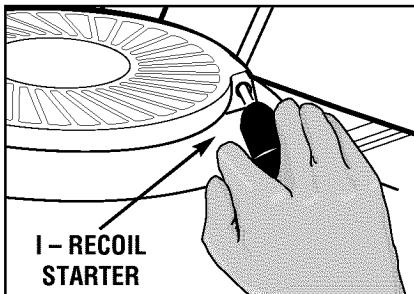

Figure 3-7
- B. Grasp starter rope handle (Figure 3-7) and pull slowly until rope pulls slightly harder. Let rope rewind slowly. Then pull rope with a rapid, full arm stroke. Let rope return slowly. If engine fails to start after three pulls, repeat instructions starting with Step 2 (try setting throttle at fast setting).